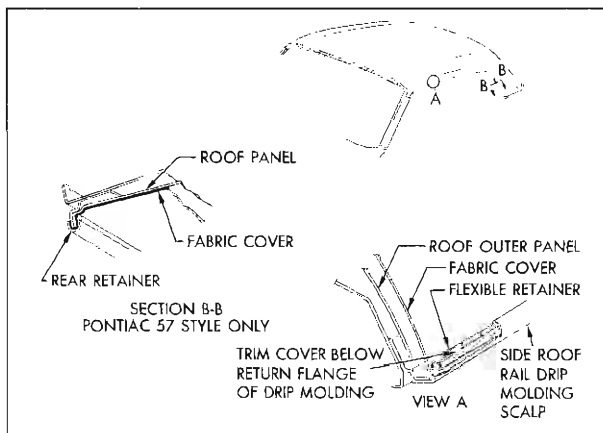
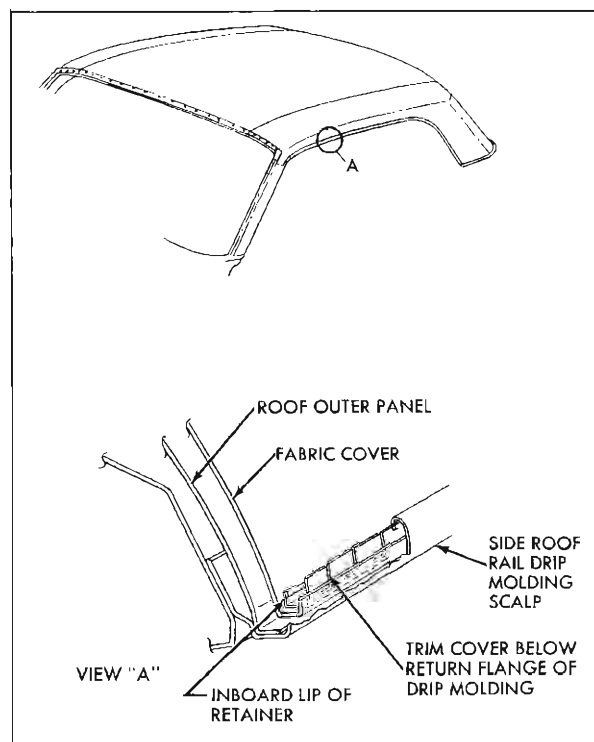
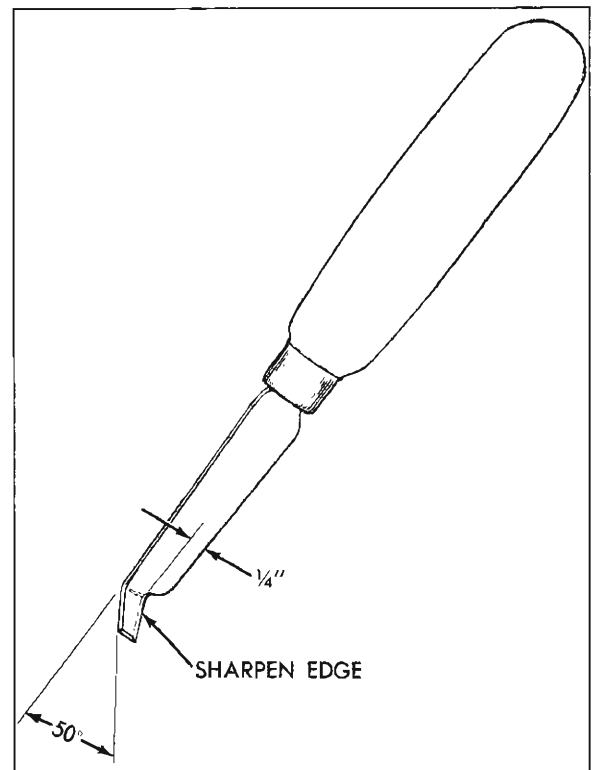

Fig. 21-73 Pontiac Fabric Roof Cover
Fig. 21-74 Tempest Fabric Roof Cover at Side Rail
Fig. 21-78 Fabric Cover Trimming Knife
cover inside right and left drip moldings can best be completed by inserting tip of screwdriver or similar tool under forward end of retainers. (See View "A" in Fig. 21-73 for Pontiac. See View "A" in Fig 21-74 for Tempest). Working from front to rear of body, disengage fingers of retainers from side roof rail drip molding flanges. Continue above operation until retainers can be removed from body. On Pontiac "57" style, remove fabric cover rear retainer at rear quarter window area. (See Section "B-B", Fig 21-73).
19. Using fabric cover trimming tool (J-21092), or suitable small knife, trim fabric cover just under lip of roof drip molding. (View "A", Fig. 21-73). A tool may be fabricated to trim material along side roof rail molding as illustrated in Fig. 21-78.
21. Install flexible retainer starting at radius area above rear quarter window. Working toward ear of body, if necessary, carefully drive retainer downward with a blunt-edged tool. Working toward front of body, install remaining portion of retainer. Retainer fingers should be seated in flange of drip molding. (View "A", Fig. 21-73). On Pontiac "57" style, compress retainer to insure a tight fit and install on rear drip molding (Section "B-B", Fig. 21-73).